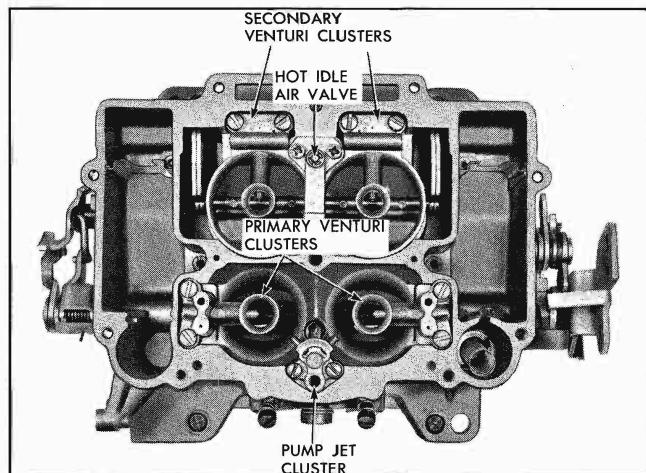

Fig. 6B-78 Top View of Carburetor Body Assembly
11. Lift out auxiliary throttle valve, shaft and weight assembly (Fig. 6B-79).